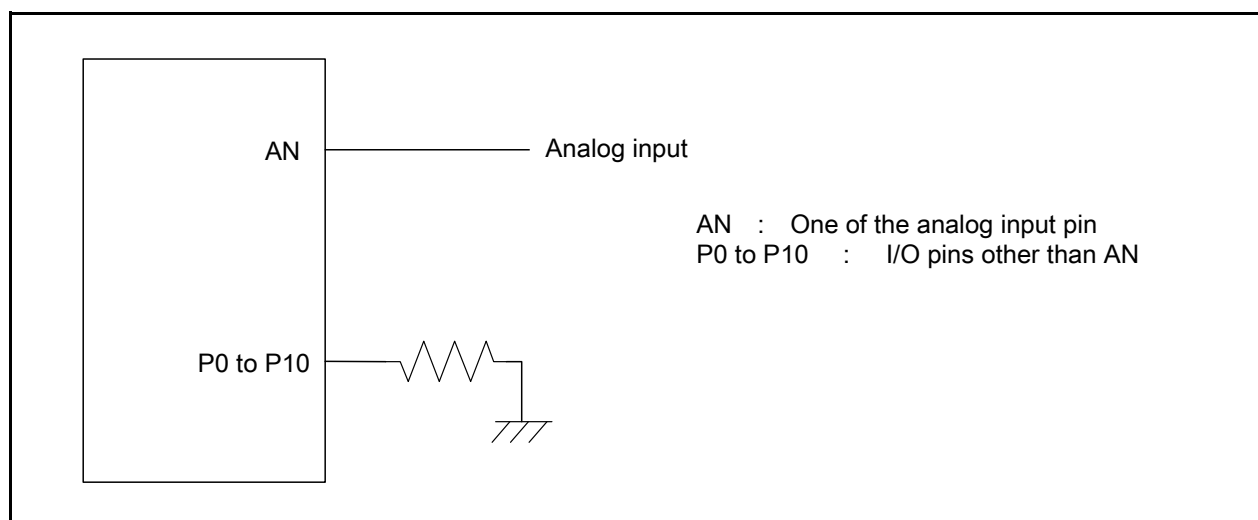

Figure 5.2 A/D accuracy measure circuit
4. Flash memory rewrite disabled. Except for the analog input pin, set the pins to be measured as input ports and connect them to V_{SS} . See Figure 5.2 "A/D accuracy measure circuit".